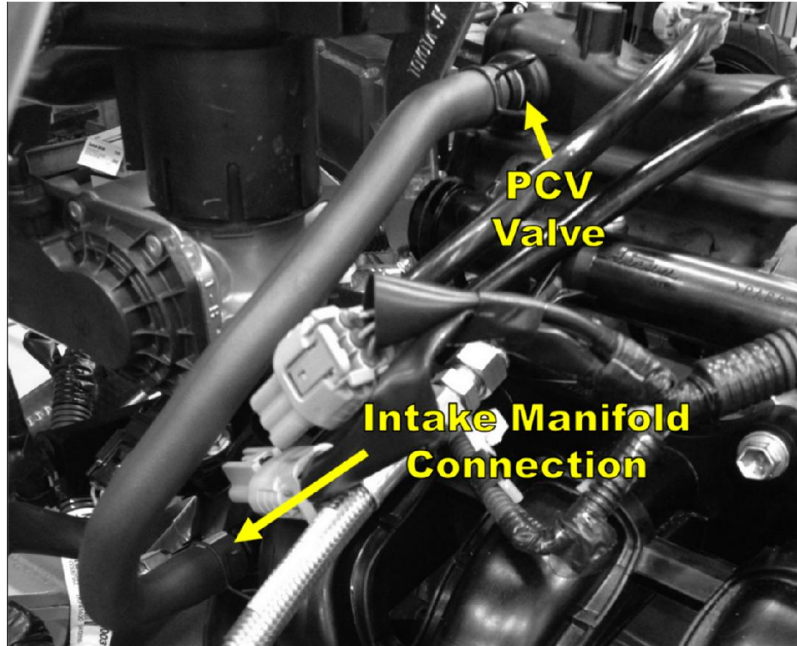
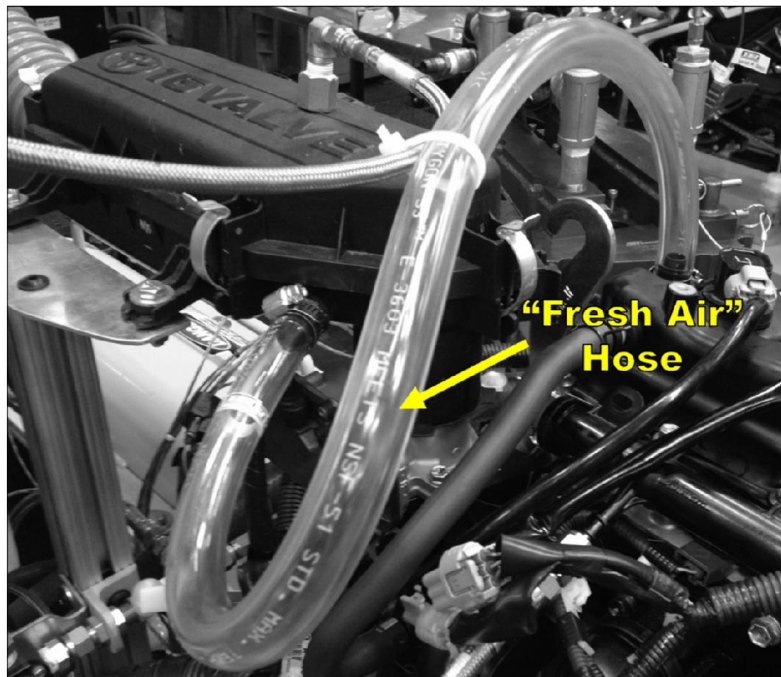

Figure 1 - PCV Valve and Intake Manifold Hose
Figure 2 - Fresh Air Hose between Intake Manifold and Air Cleaner Box
3.3.5. Stock active PCV system (Figure 1 and Figure 2) **Complete:**